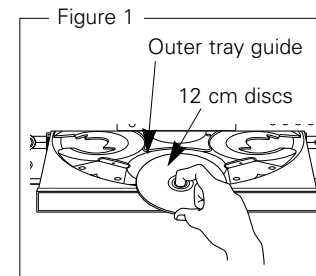
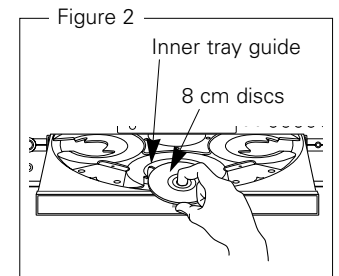

Figure 1
Figure 2
- Place the discs flatly, 12 cm discs in the outer tray guide (Figure 1), 8 cm discs in the inner tray guide (Figure 2).